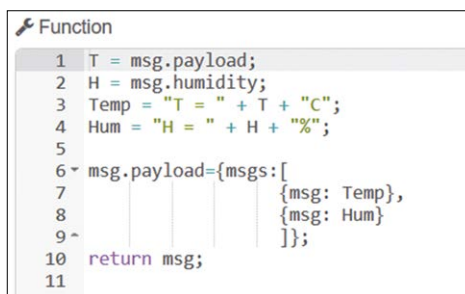

Figure 6.26 Configure the function node
- Create a **function** node and name it as **Display**. Enter the following statements inside the function (see Figure 6.26). Variables **T** and **H** receive the temperature and humidity readings respectively from the DHT11 every 5 seconds. Temperature is displayed at the top row, while the humidity is displayed at the bottom row of the LCD: